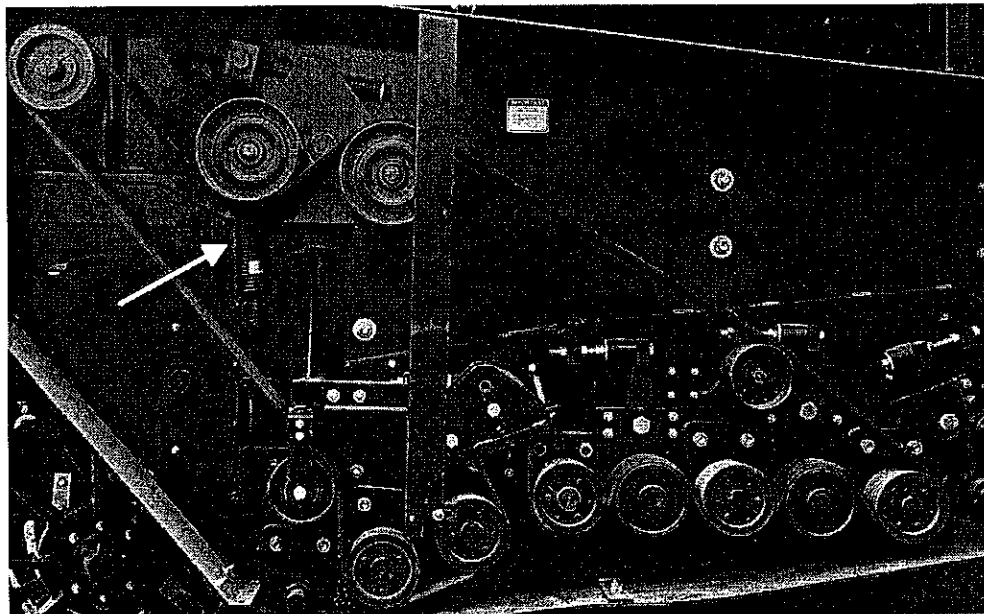
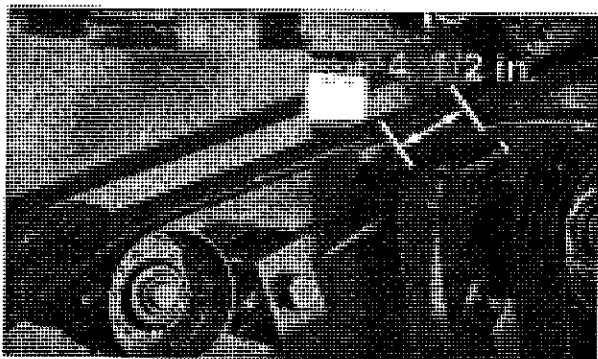

Figure 31. Left-Hand Drive Mechanism (Shields Removed For Clarity); Arrow Shows Assist Spring (Left-Hand Drive Only)
Figure 32. Belt Tension Adjustment
- A 6-band V-belt drives the rollers on the left side of the harvester (Figure 31).
Drive belt tension is maintained by idler springs (Figure 32) on both sides of the machine. Compress the springs to 4-1/2". Check the tension regularly and tighten if required. The assist spring (indicated by the arrow in Figure 31) should be adjusted to 13" (coil end-to-coil end). Set this spring after adjusting the primary drive tension spring. Then check the primary tension spring.
Note: Always adjust the drive belt tension when the bed is raised or lowered. Refer to Figure 32, page 31.